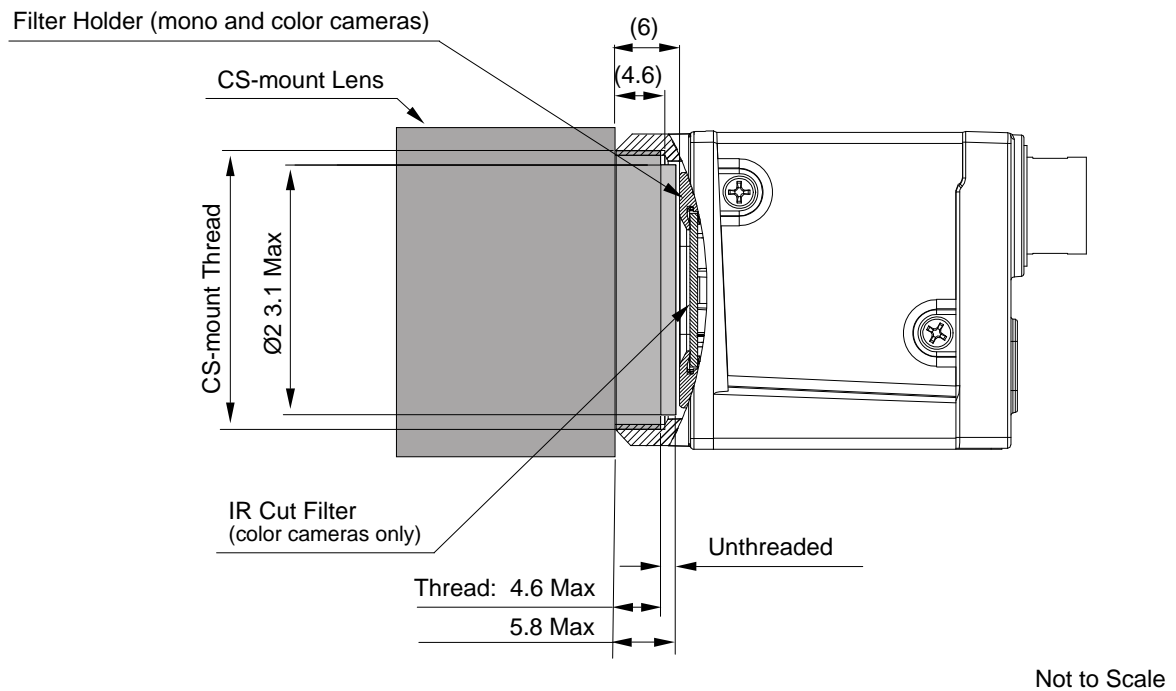

Fig. 22: Maximum Lens Thread Length (Dimensions in mm) for Cameras with the CS-mount Lens Adapter
- Camera with CS-mount lens adapter (see Figure 22):